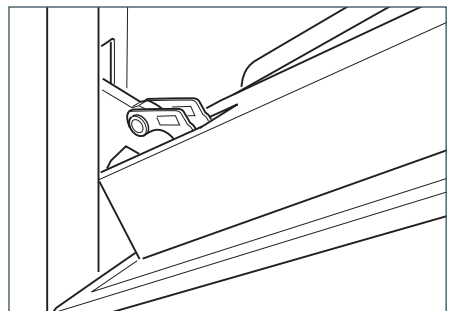

Fig.62d
- 4 Gently close the door until left and right hinge levers "A" are hooked to part "B" of the door (Fig. 62d).